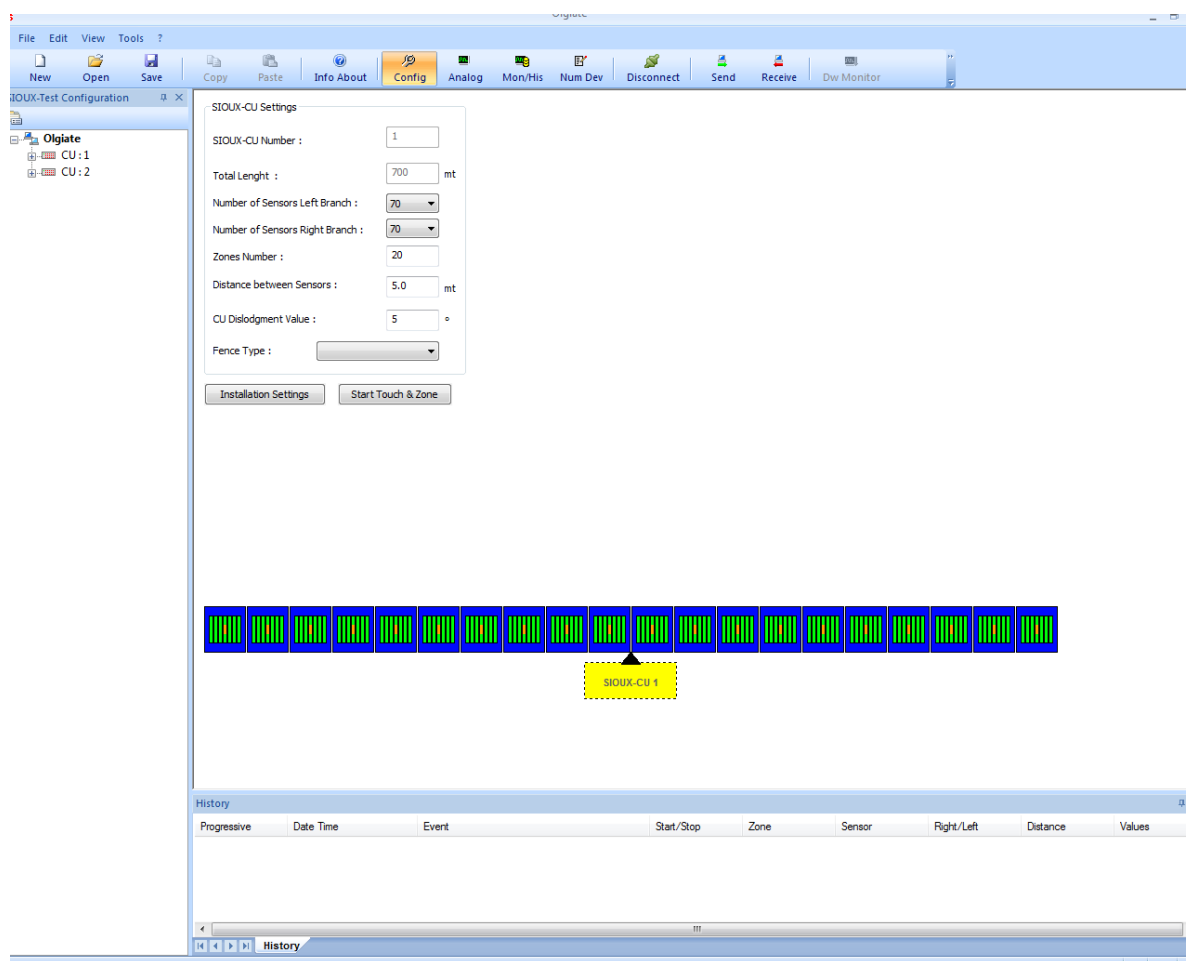

Figure21
In Figure21 the area with information relating to the Sioux-CU is shown:
- **Number Sioux-CU:** number of Sioux-CU present or configured on the site. In *Figure21* the system has only one Sioux-CU "1".